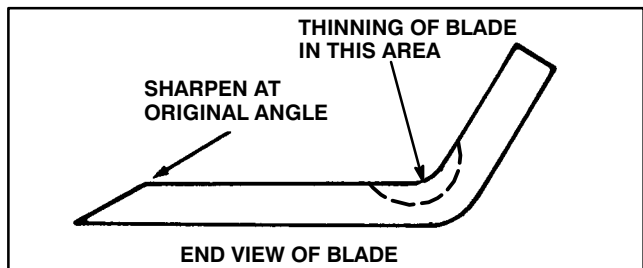

Figure 31
5. Using a file, sharpen cutting edge at both ends of the blade (Fig. 31).